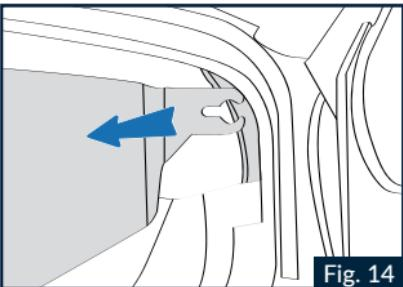

Fig. 14
creen and pull it toward the outside of the helmet (Fig. 14).
- 4.2 Insert the sunscreen left end into the guide until it is completely fastened to the shell housing (Fig.14).